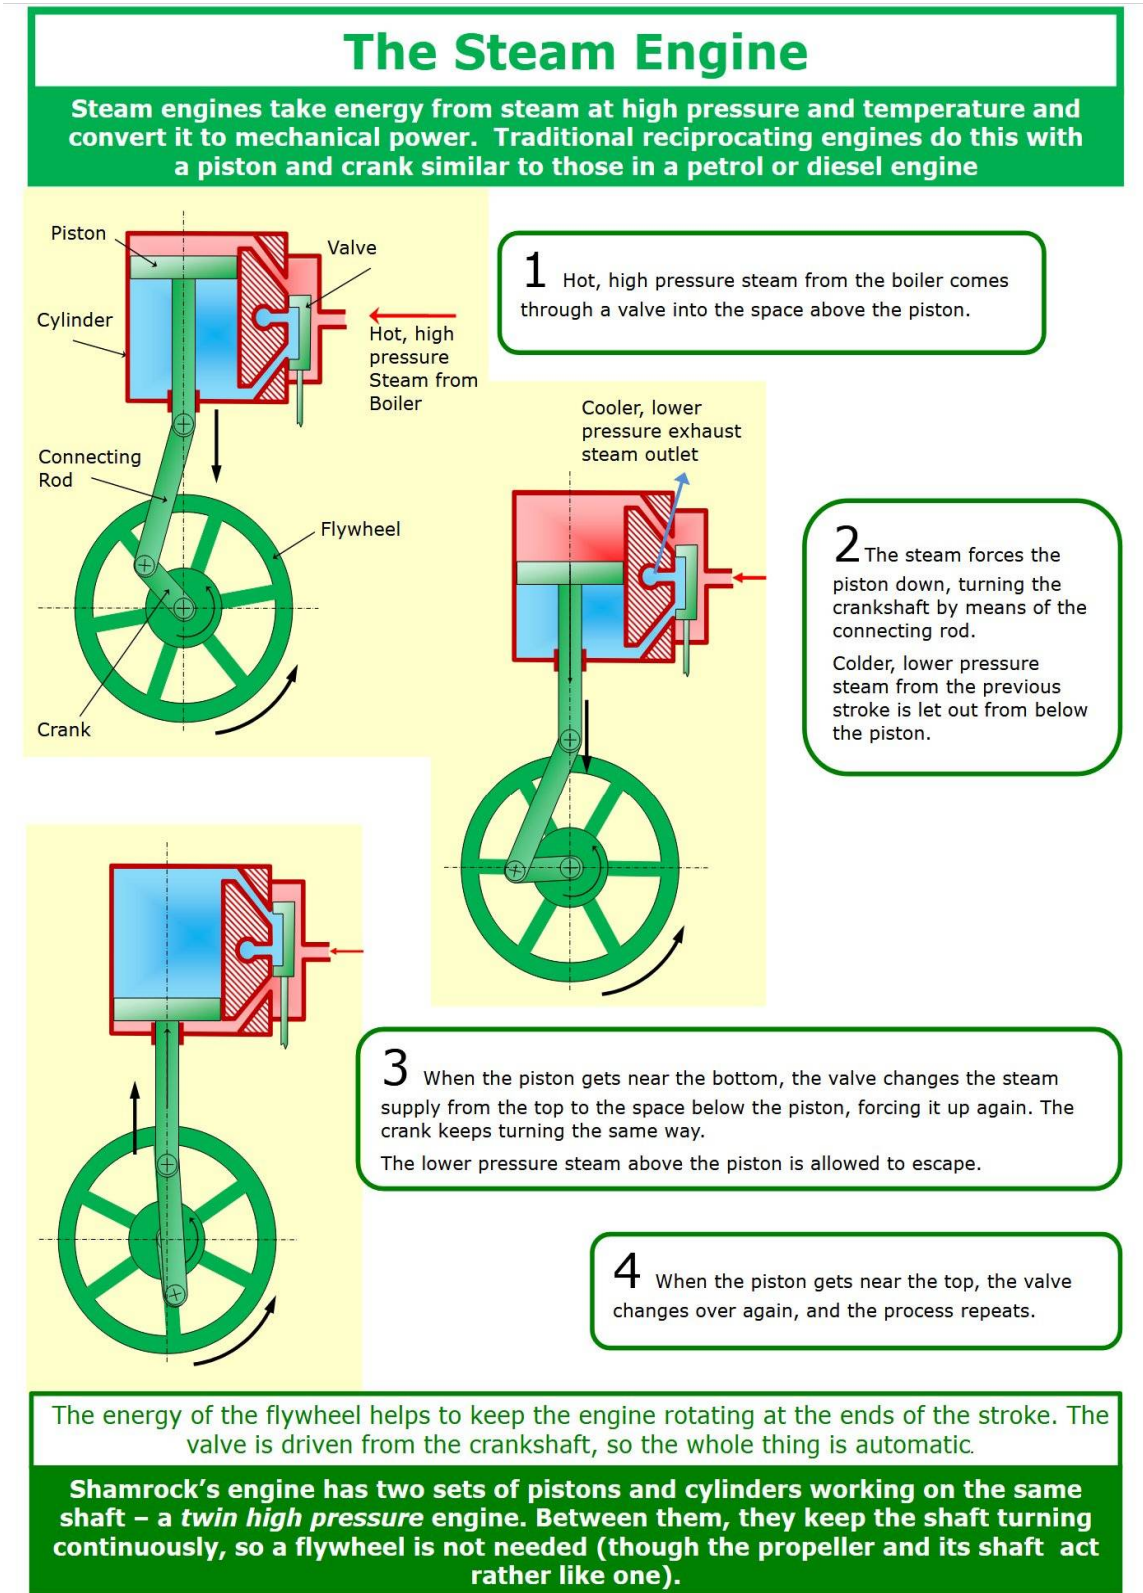

Figure 3: A simple Steam Engine
3. Figure 3 shows the workings of a *simple* engine. More powerful engines may have two or more piston/crank units on the same crankshaft. In some engines (*compound* engines), the two are of different sizes, and the same steam acts first on the smaller one, then on the larger.